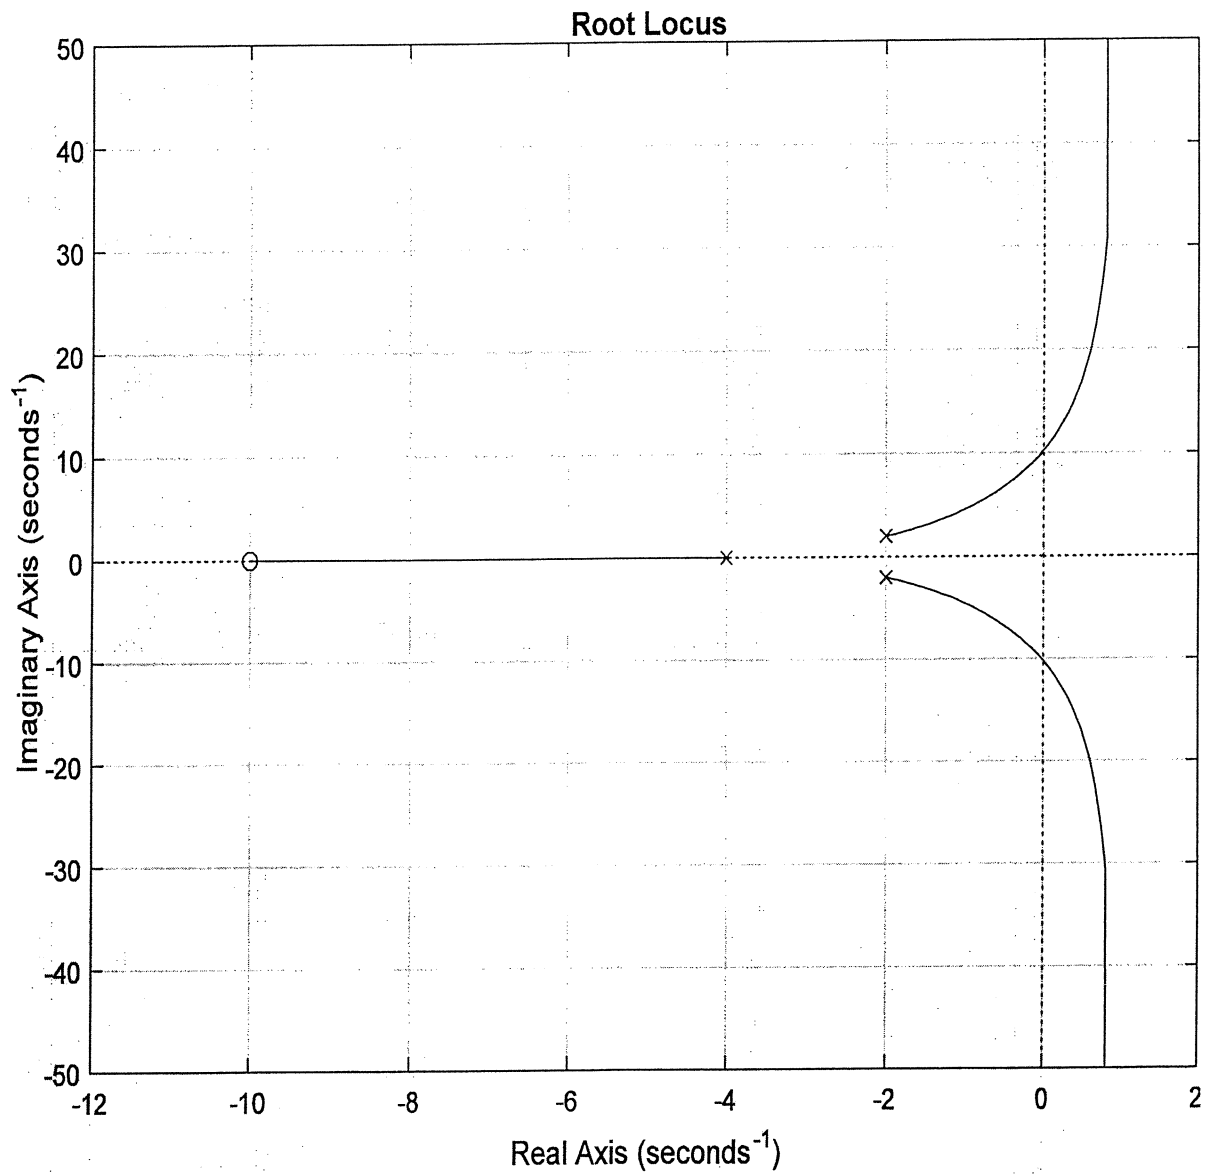

Figure Q1.2 – Root Locus Plot for the System in Question 1
- (7 marks)** The Root Locus sketch for the system in question is provided in Figure Q1.2. Use it to read off the frequency or frequencies (ω_{osc}) corresponding to the crossover(s) of the Root Locus with the Imaginary axis. Next, use the Root Locus Magnitude Criterion (shown below) to determine the corresponding values of critical gains (K_{crit}). Finally, use the Root Locus sketch to interpret the corresponding range or ranges of safe operating gains.